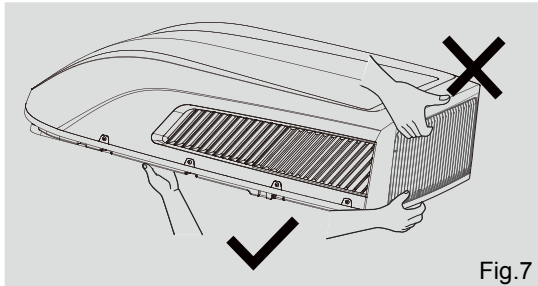

Fig.7
1) When taking out the outdoor unit after unpacking, do not lift the air outlet grille at the back of outer case (see Fig.7).